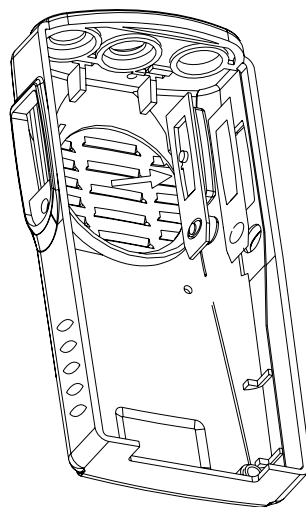

Figure 6
Step 2 Install the PTT key into its place from the inner side of the chassis. See Figure 6.